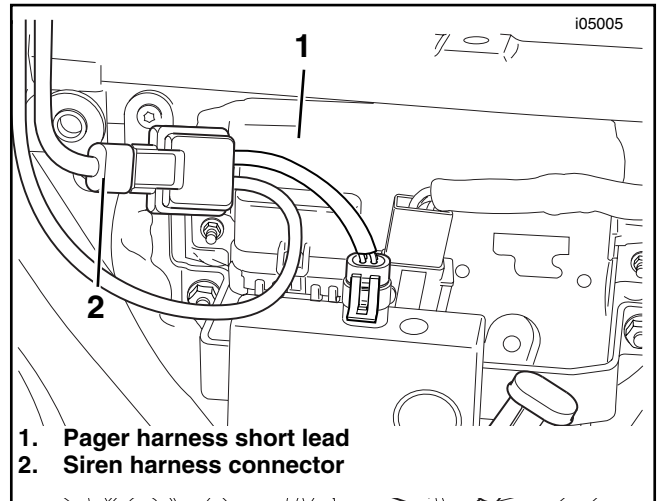

Figure 16. Connect Pager Harness to Siren (2001 and earlier Models)
11. See Figures 16 and 17. Connect the short pager harness lead to the siren.